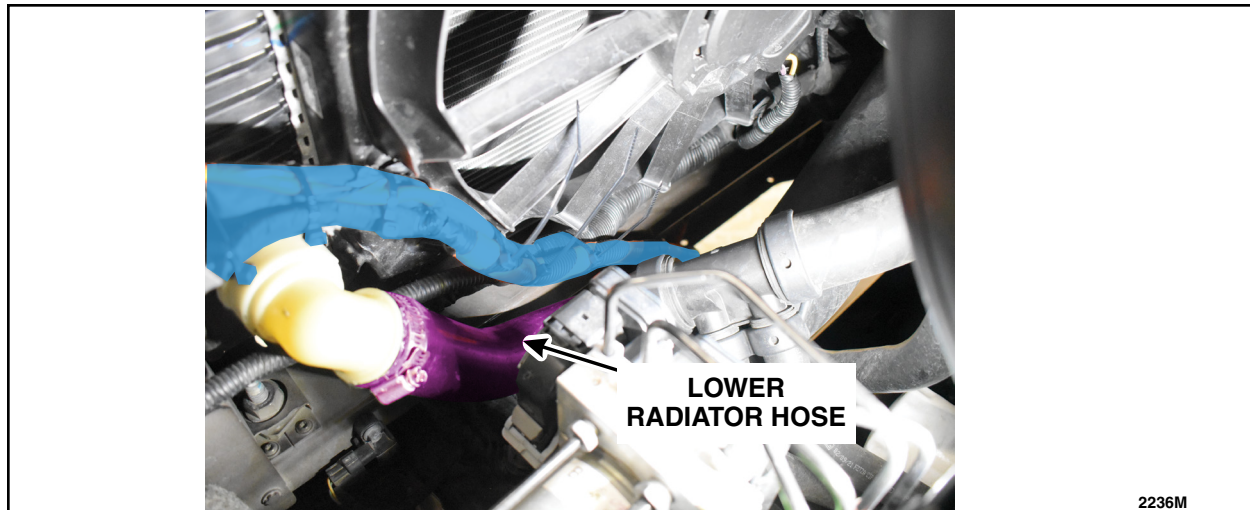

FIGURE 19
21. As you follow the 14290 harness down, be sure to zip tie the aux box harness away from the lower radiator hose. This step is critical. See Figure 19.